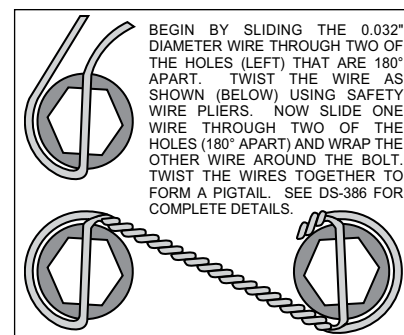

Figure 3. Safety Wire Diagram
- The caliper mount bracket assembly (1) should be installed first with clean, dry threads on the mounting bolts. Install the bracket by sliding bolt (4) through washer (2) from the back side through the lower caliper mounting ear on the spindle. Slide bolt (3) through washer (2) from a 90° degree angle on the upper portion of the steering arm. The bracket must tighten squarely against the outboard side of the caliper mount bosses on the spindle body. Inspect for interference from casting irregularities, machining ridges, burrs, etc. Later, after the caliper, pad, and rotor alignment has been checked, and any necessary shims have been put in place, the threads of the mounting bolts should be coated with red *Loctite*® 271 and torqued to 65 ft-lbs.
- Install wheel studs (5) into the hub (6). Torque to 77 ft-lb. **NOTE:** *There are two (2) five lug patterns in the hub (5 x 4.50 and 5 x 4.75).* Make sure of the correct hole pattern for the correct wheel application before installing studs into hub.
- Pack the large inner bearing cone (7) with high temperature disc brake bearing grease (available from your local auto parts store) and install into the backside of the hub (6).
- Install the grease seal (8) by pressing into the backside of the hub (6).
- Pack the small outer bearing cone (14) with high temperature disc brake bearing grease and install into front of hub (6). Slide the hub assembly (5, 6, 7, 8 and 14) onto the spindle. Secure using spindle washer (15), stock adjusting nut and nut locking device. Adjust bearing using a 12" wrench to tighten the adjusting nut while turning the rotor. When the rotor binds slightly, all the bearing parts are seated properly. Back of the nut 1/6 to 1/4 of a turn or enough to allow 0.001 to 0.007 end play. Lock the nut with a new cotter pin. **WARNING:** *Failure to back off the adjusting nut may cause the bearing to run hot and be damaged, which could cause the wheel to lock or come off during operation, creating a risk of serious bodily harm.*
- Install the o-ring (16) on the dust cap (17), and screw dust cap assembly onto the hub (6). Friction created by the o-ring (16) on the dust cap (17) keeps it from unscrewing.
- With the larger I.D. side of the rotor (9) facing away from the hat (10), bolt rotor (9) to hat(10) through the backside of the rotor using washers (11) and bolts (12). Apply red *Loctite*® 271 to the bolt threads and torque to 155 **in-lb** using a criss-cross pattern. For an added measure of security, the bolts may be safety wired using standard 0.032 inch diameter stainless steel safety wire as shown in Figure 3. Please refer to Wilwood's data sheet DS-386 (available at www.wilwood.com/Pdf/DataSheets/ds386.pdf) for complete safety wire installation instructions.
- Slide the rotor/hat assembly over the studs (5) in the hub (6) taking care to align the small countersunk holes in the hat (10) with the small threaded holes in the hub (6). Install three flat head socket head screws (13) through the small holes in the hat (10) and torque to 85 **in-lb**.